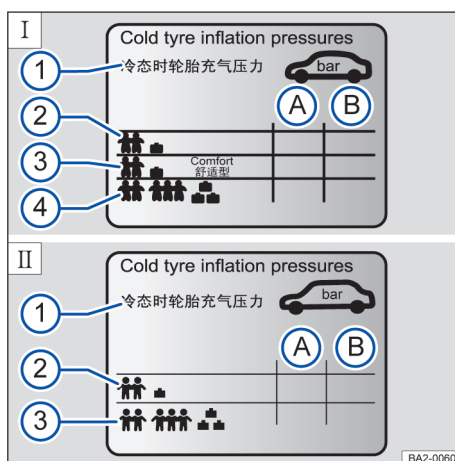

Fig. 147 Symbols on the tyre pressure sticker
Data on the sticker (type I) → Fig. 147:
Data on the sticker (type II) → Fig. 147:
Depending on the vehicle, the tyre pressure sticker may show details of a comfort tyre pressure → Fig. 147 ③. The comfort tyre pressure allows increased driving comfort. Fuel consumption may increase when driving with comfort tyre pressure.